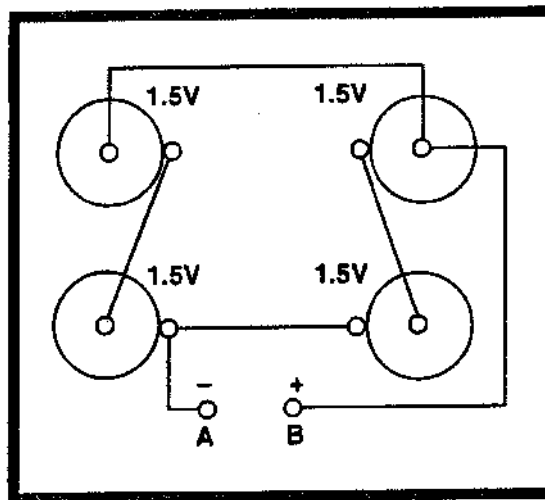

Fig. 9.8. Battery Circuit.
27. (Refer to figure 9.8) What is the measured voltage of the series-parallel circuit between terminals A and B ?